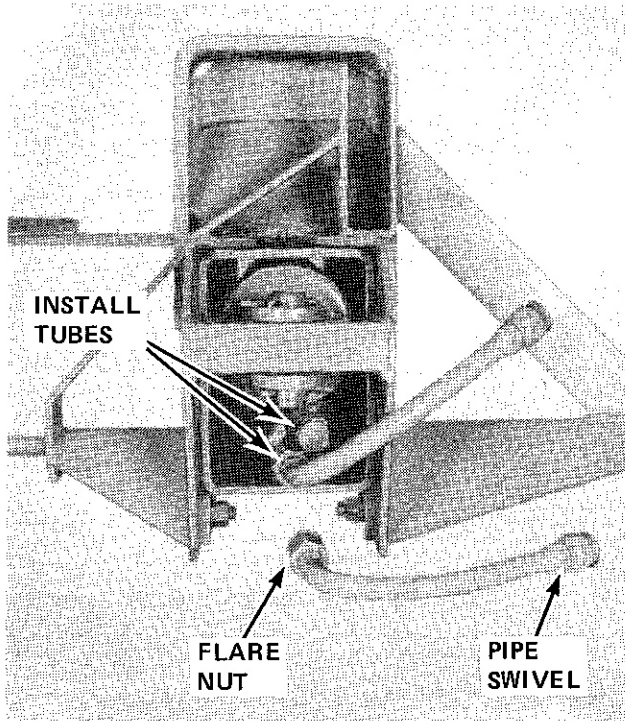

FIGURE 3
1. Refer to Figure 3. Install and tighten the two "U" shaped tubes to the fittings at the front of the Wood Splitter. The end with the pipe thread swivel nut must face the right side as viewed from the front end.